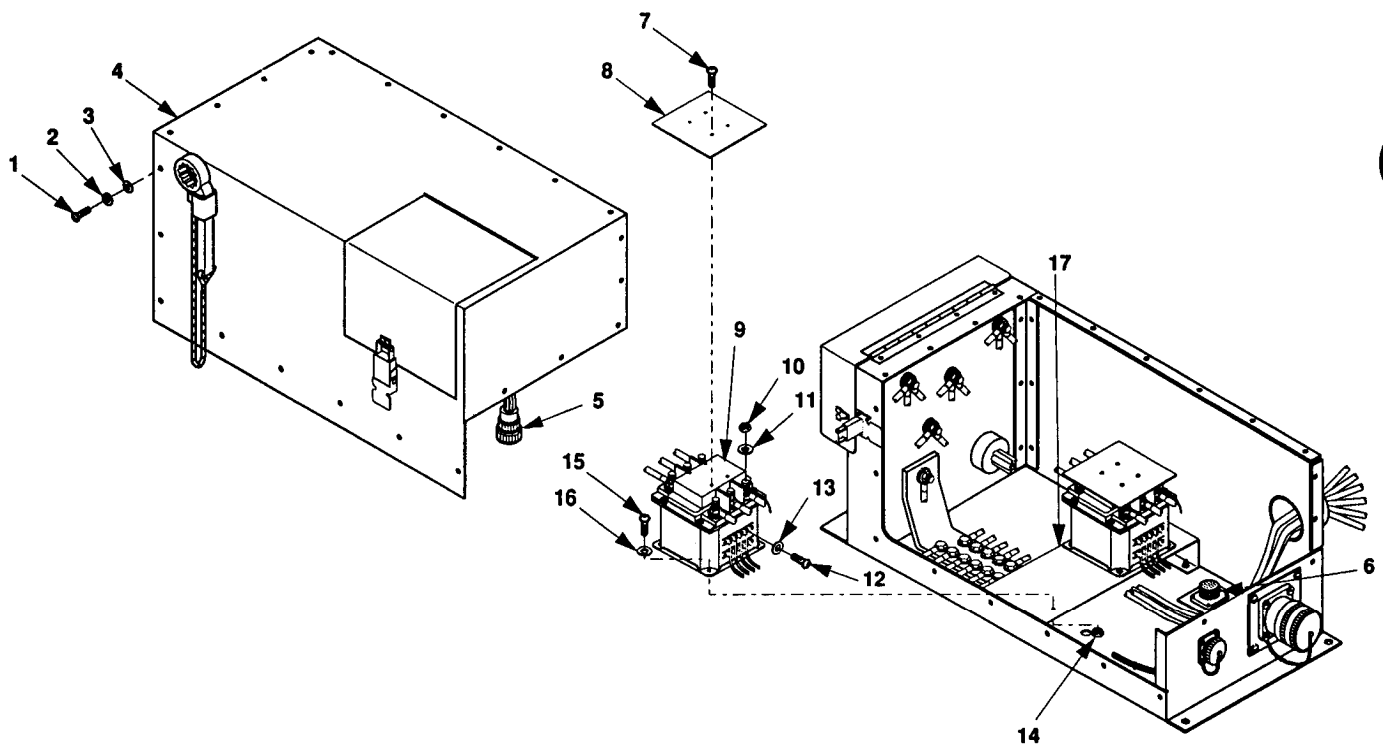

Figure 5-15. Contactor Maintenance.
1. Remove 21 screws (1, figure 5-15), lock washers (2), flat washers (3) that secure the switch box cover (4) to the switch box assembly. Discard lock washers.
2. Carefully position switch box cover (4) in front of the switch box assembly.
3. Disconnect P3 (5) from J4 (6) and set switch box cover (4) out of the way.
4. Remove and retain the switch box cover (4).
5. Remove four screws (7, figure 5-15) and one terminal shield (8) from the contactor (9).